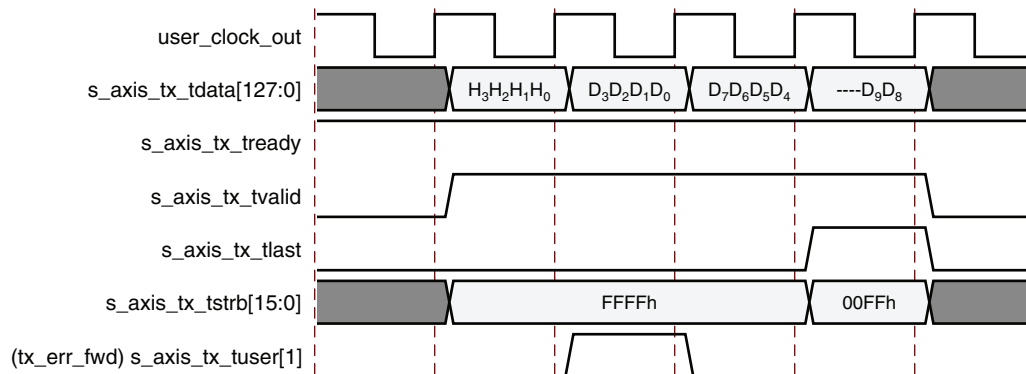

Figure 3-39: Packet Data Poisoning on the Transmit Interface
- Assert (tx_err_fwd) s_axis_tx_tuser[1] for at least one valid data transfer cycle any time during the packet transmission, as shown in Figure 3-39. This causes the core to set EP = 1 in the TLP header when it transmits the packet onto the PCI Express fabric. This mechanism can be used if the User Application does not know whether a packet could be poisoned at the start of packet transmission. Use of tx_err_fwd is not supported for packets when (tx_str) s_axis_tx_tuser[2] is asserted (streamed transmit packets). In streaming mode, users can optionally discontinue the packet if it becomes corrupted. See Discontinuing Transmission of Transaction by Source, page 56 for details on discontinuing packets.